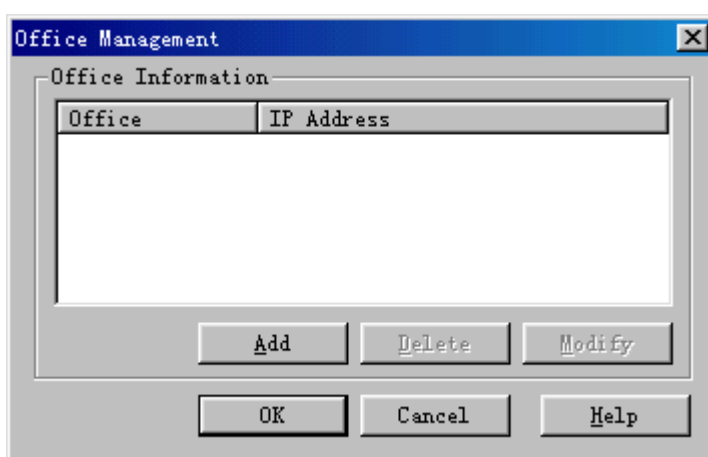

Figure 4-5 Office Management dialog box
If there is no office in the **Office Management** dialog box as shown in Figure 4-5, set the parameters in the dialog box with reference to 4.4 "Managing Office".
- 1) Choose **System** -> **Office Management**, or click the shortcut icon . The **Office Management** dialog box opens up, as shown in Figure 4-5.